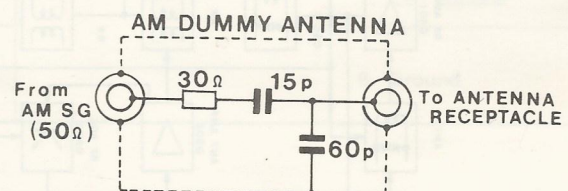

Fig. 4
- (a) Connect the V.T.V.M. to the speaker output of either channel, and the output of AM RF S.S.G. to the antenna through dummy antenna (Fig. 4).